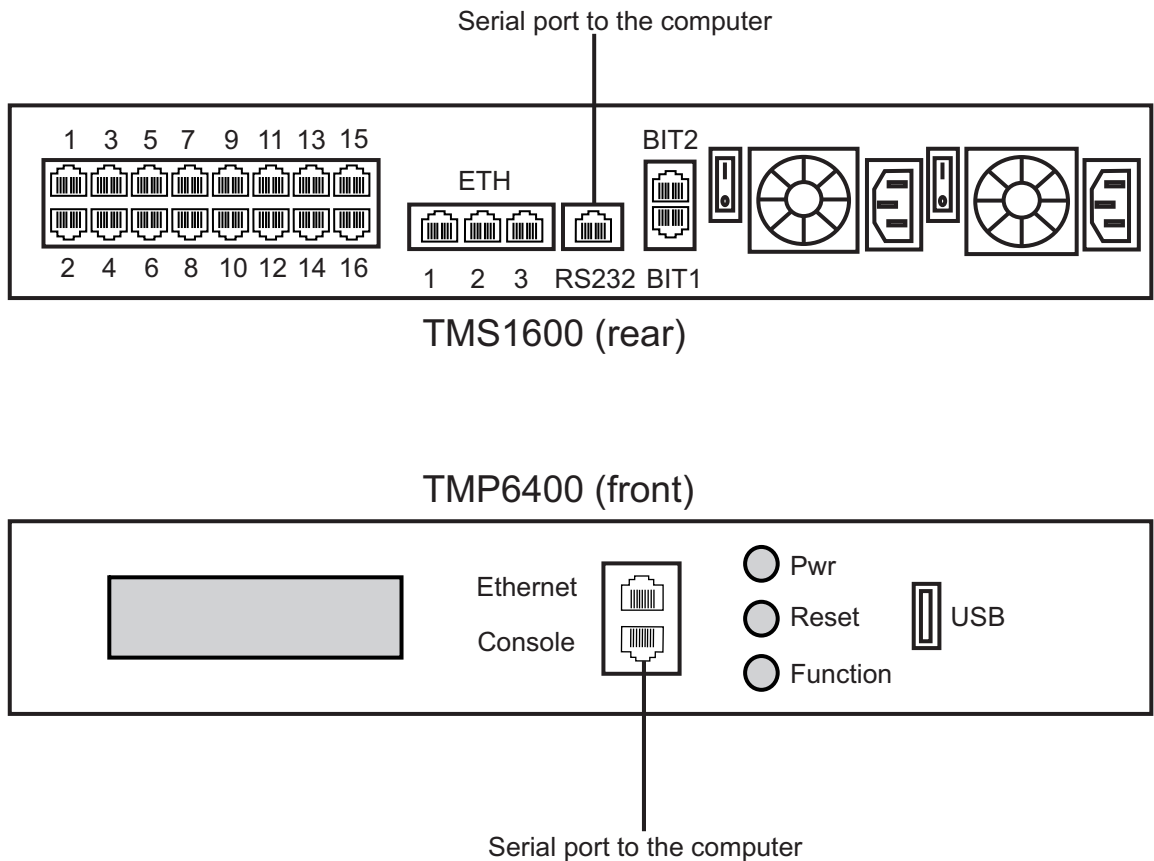

Figure 2.4 Computer to Tmedia Unit Serial Port Connection
1. Connect a RJ45 CAT5 (male-male) straight cable (supplied with unit) between the com port of your computer and the serial port of the Tmedia unit as shown in figure 2.4 on page 14. See Section 2.6 “Console pinout” on page 15 for a RJ-45 pinout description.